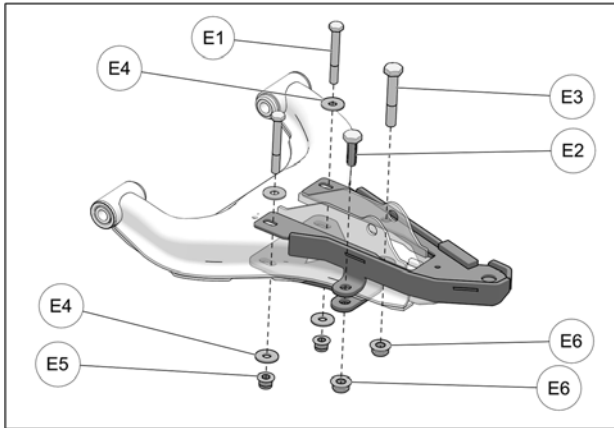

Fig. 13
7. Assemble stiffener and bottom plate with M10 bolts (E3-E2) and nuts (E6); M8 bolts (E1), washers (E4), and nuts (E5) as shown in Fig. 13. Torque M10 bolts to 50 N-m [37 lb-ft] and M8 bolts to 25 N-m [18 lb-ft].